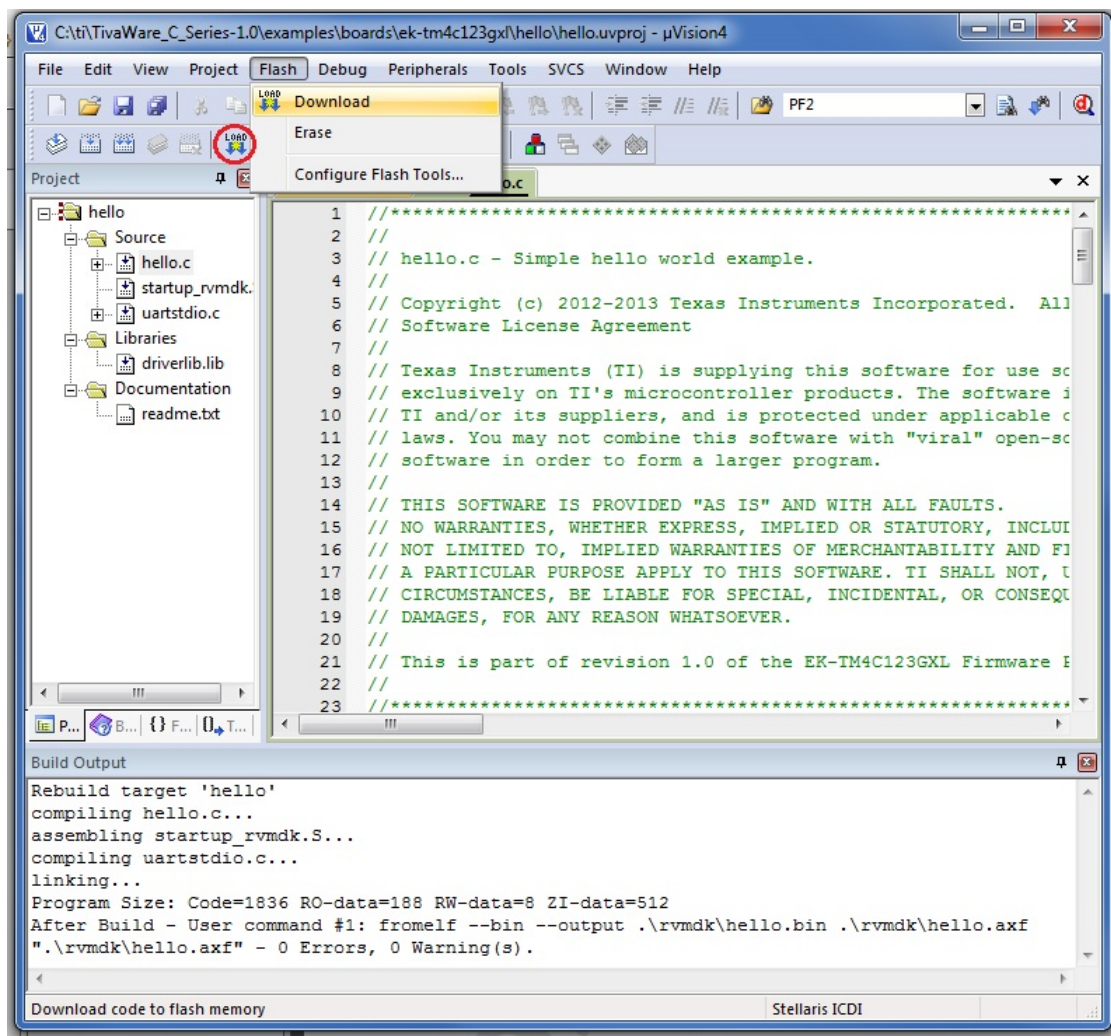

Figure 7.
1. Select Download from the Flash menu, or click the Download button (icon) (see Figure 7).